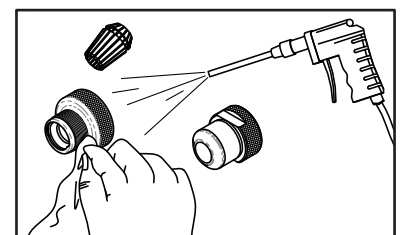
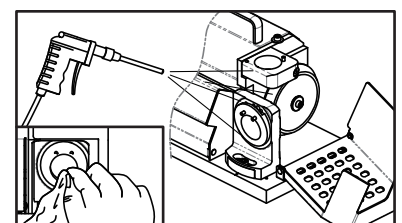

Fig. 10-4
Fig. 10-5
- ① Unplug the power cord and make sure the power is off.
- ② Disassemble the used chuck set.
- ③ Use the air press gun and clean cloth to clean all grinding shelves and all the accessories. (Fig. 10-4, Fig. 10-5)
- ④ Put the cleaned accessories back in order.